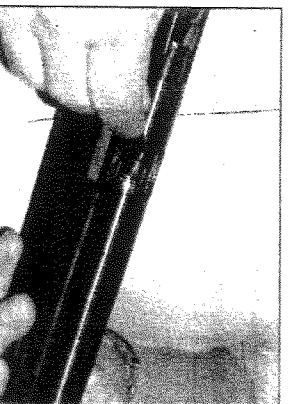

Figure 6
14. **WITH GUN POINTED IN SAFE DIRECTION and firing mechanism open, place a 209 primer into the breech plug.** If using percussion caps, place the cap onto the nipple. **THE GUN IS NOW LOADED.** (See Figure 6).